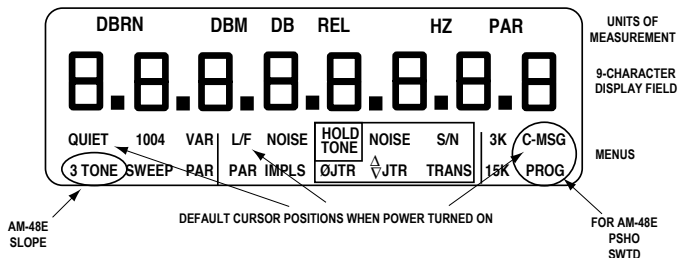

Figure 3-7. AM-48 Liquid Crystal Display
Figure 3-7 shows the AM-48 liquid crystal display:
1. The top line in Figure 3-7 shows all the possible units of measurement. The units of measurement appear as appropriate to label the value(s) displayed in the main display field. Time and Count parameters do not show the units on the display.
2. The main display field has nine (9) 7-segmented characters with decimal points. The prompts that appear on the display are "pseudo-alpha" because of the limitations of the 7-segmented characters. There are three (3) possible types of display fields, as explained in ¶7.4.
3. Below the main display field are the menus for the three (3) cursors, shown in detail in Table 3-2.